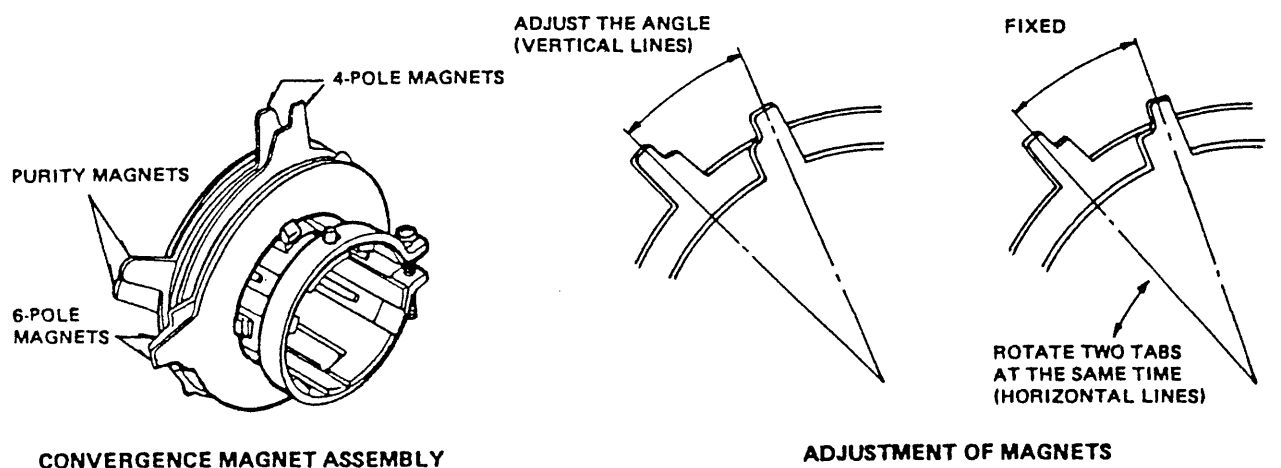

Fig. 16.
- (f) Rotate and spread the tabs of the purity magnet (see Fig. 16 ) around the neck of the picture tube until the green belt is in centre of the screen. At the same time, centre the raster vertically.
- (c) Adjust two tabs of the 4 Pole Magnets to change the angle between them (see Fig. 16.) and superimpose red and blue vertical lines in the centre area of the picture screen. (See Fig. 17.)
- (d) Turn both tabs of the 4 Pole Magnets to change the angle to superimpose red and blue horizontal lines at the centre of screen (See Fig. 16.)